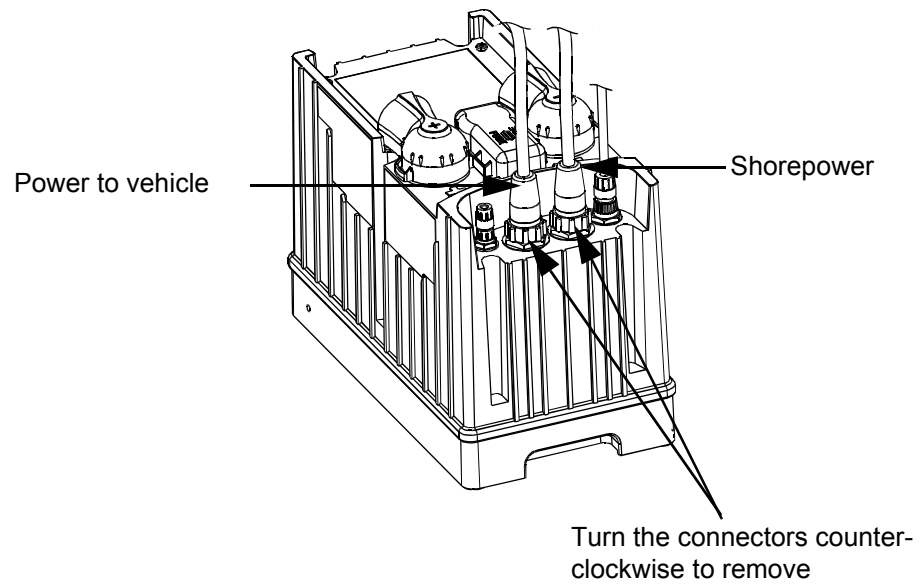

Figure 3-3 AC input and output cables
- Grasp the knurled surface of the connector housing as shown in Figure 3-3 and turn counter clockwise approximately one-half turn. Gently pull the cable out by grasping the connector.